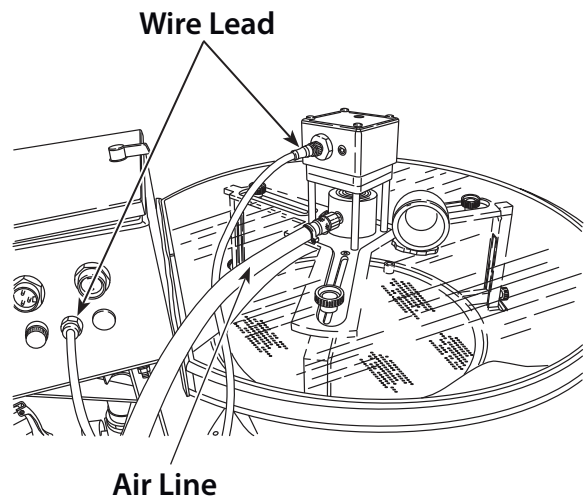

Figure 23
1. Detach the air line and wire lead from the fixture base. (Figure 23)